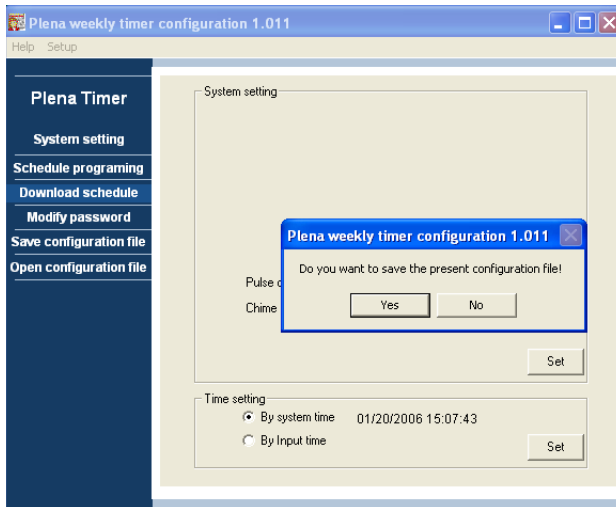

figure 8.17: Download schedule dialog box
- 1 From the main menu, click the Download schedule button. The following dialog box will appear (see figure 8.17).